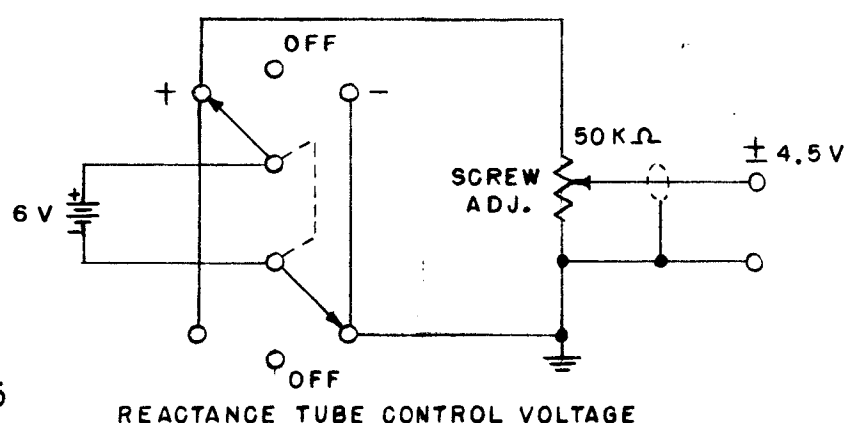

FIG. 5
- (e) Reactance control voltage figure 5